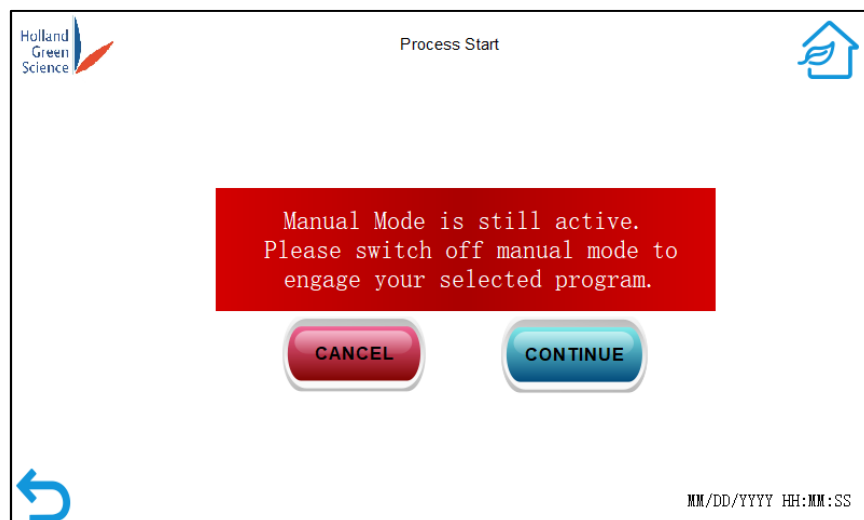

Figure 20
- Click on “CONFIRM” when you finish entering the parameters to enter the “Process Start” page (Figure 20). Note, when Program Mode is entered, the manual control mode will be disabled, and all the parameters set in manual control mode will be reset.